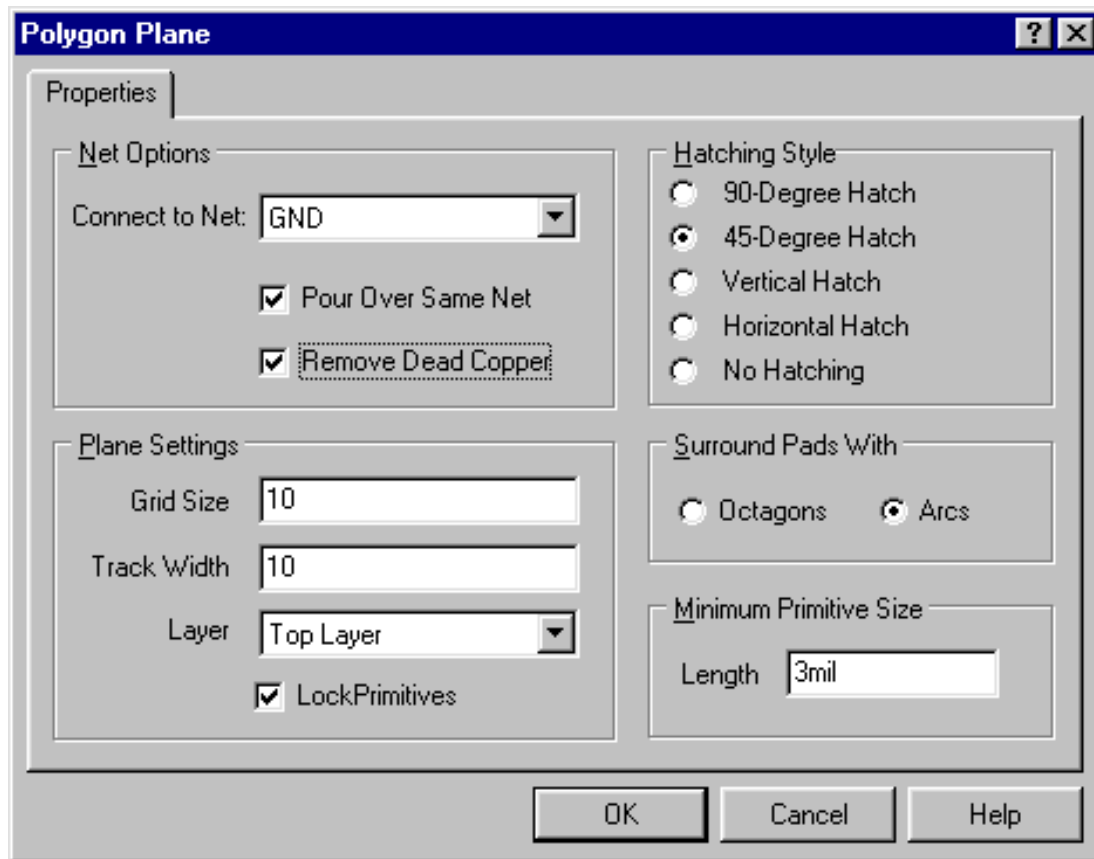

Figure 22 Polygon Plane dialog box
2. Place a Polygon Plane covering 3 or four IC's using the parameters in the Polygon Plane dialog box shown in Figure 22.